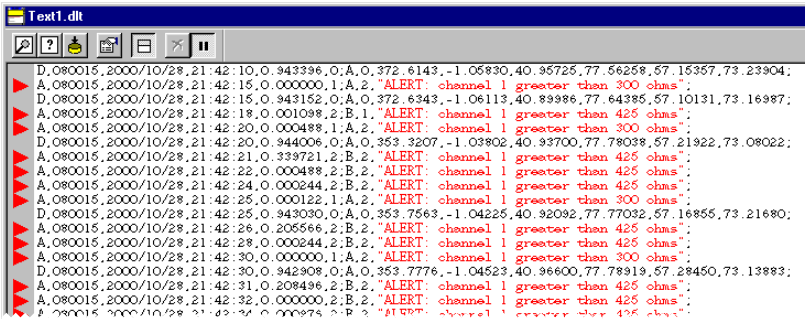

FIGURE 68 Alarm and data records returned to DeLogger's text window — schedules A and B
- h) Experiment with the potentiometer knob to see the alarm records returned to the text window (Figure 68) and the Event Logs window.